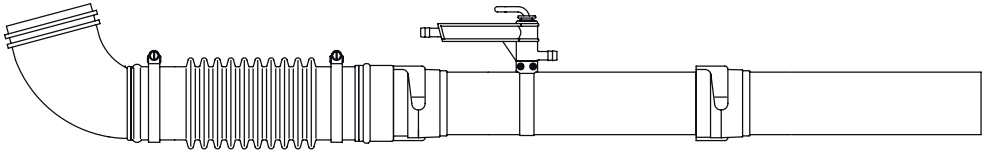

Figure 2
(1) Remove the two wing nuts fixed on the chemical tank and take down the tank. Change spraying lid plate and the pressing lid for dusting lid plate and the lowercover of chemical tank, then assemble chemical tank and screw down wing nuts, as shown in Fig.2